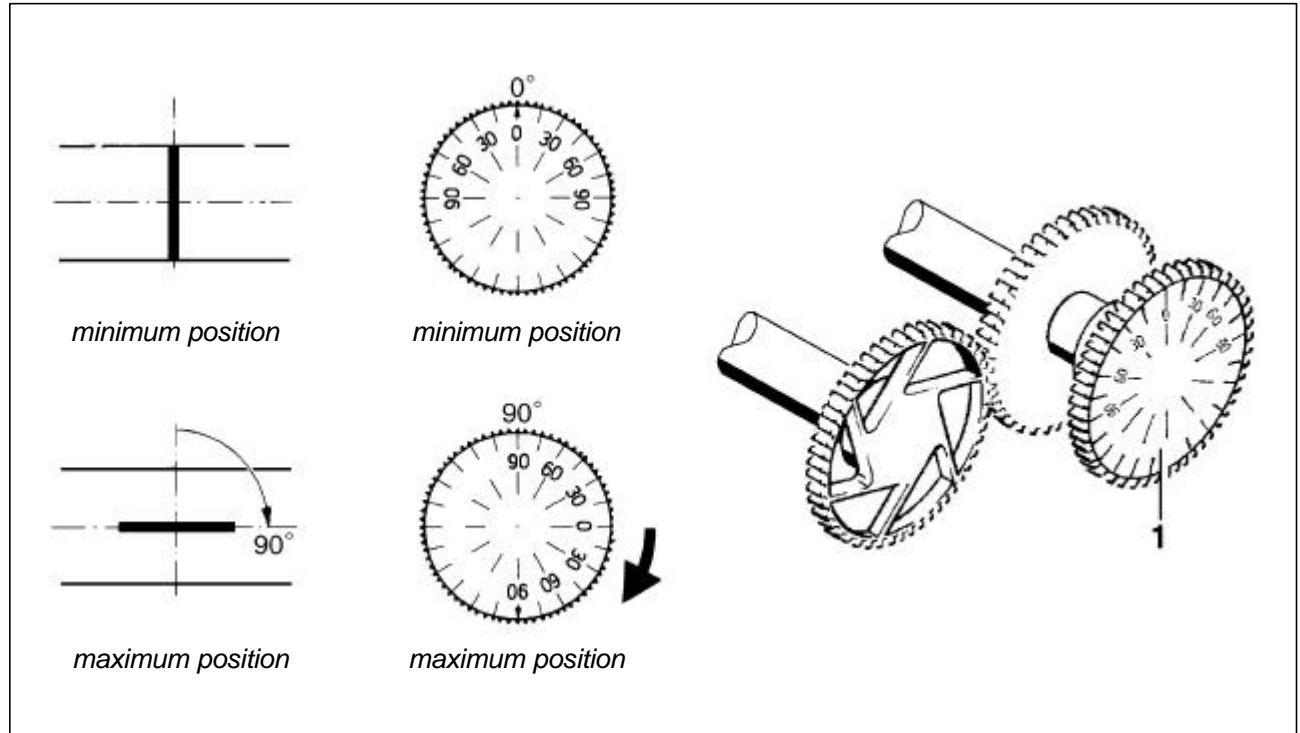

Fig. 9-3 Position controller ER 20/ER 50 - Position indicator
- Rotate the position indicator (1) into the position shown in Figure 9-3 (minimum position).